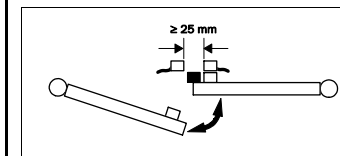

Fig. 6: Mounting example on swivelling doors
- Minimum distance between two adjacent magnetic safety switches: 25 mm. On swivelling doors the actuator is to be fitted to the closing edge (Fig. 6)